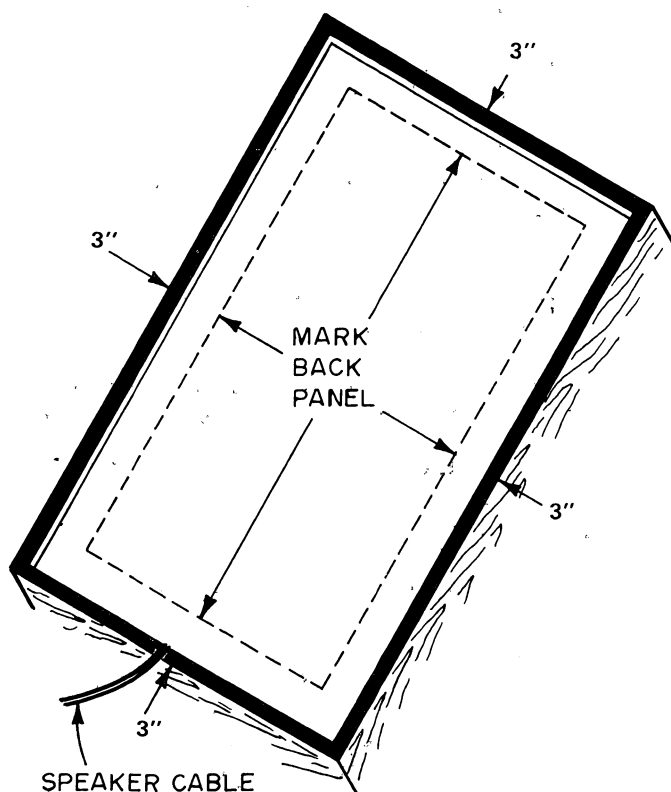

FIGURE 6 – MARKING BACK PANEL
2. Draw four (4) straight lines on existing cabinet back as illustrated (by dash lines) in Figure 6. The lines must be approximately 3” from, and parallel with, the outer edges of side, top and bottom panels.